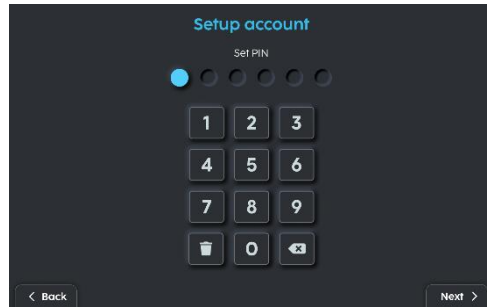

Fig. 5
5. Key in your password (Fig. 5).